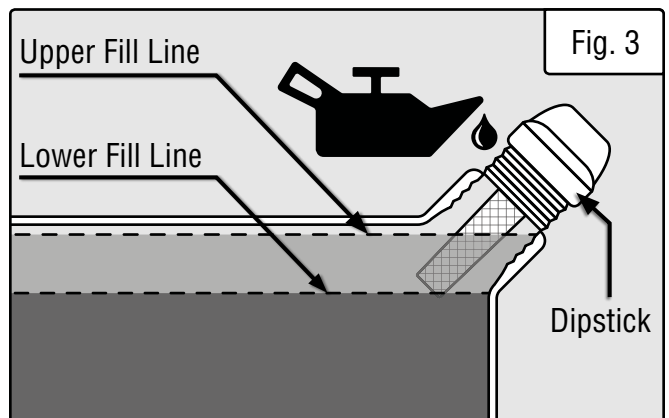

Fig. 3
3. Using an oil funnel or appropriate dispenser, slowly add oil into the oil fill, being careful not to overfill the unit. Fill the crankcase to the upper fill line so you can visually see the oil coming halfway up the oil fill threads. See Fig. 3.